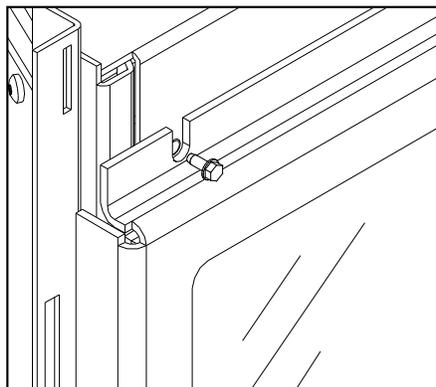
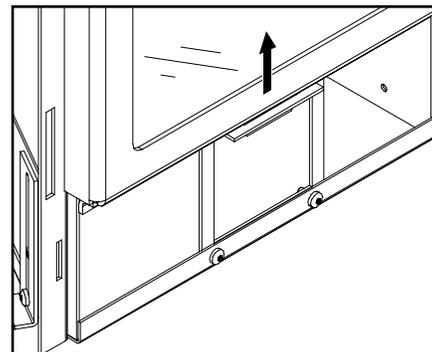

Figure 19: Top bolts for glass door.
Figure 20: Bottom hooks for glass door.
Open the door by removing the two (2) $\frac{5}{16}$ " bolts located at the top outside corners of the glass frame (see Figure 19). Lift the bottom of the door up and remove from unit (see Figure 20).